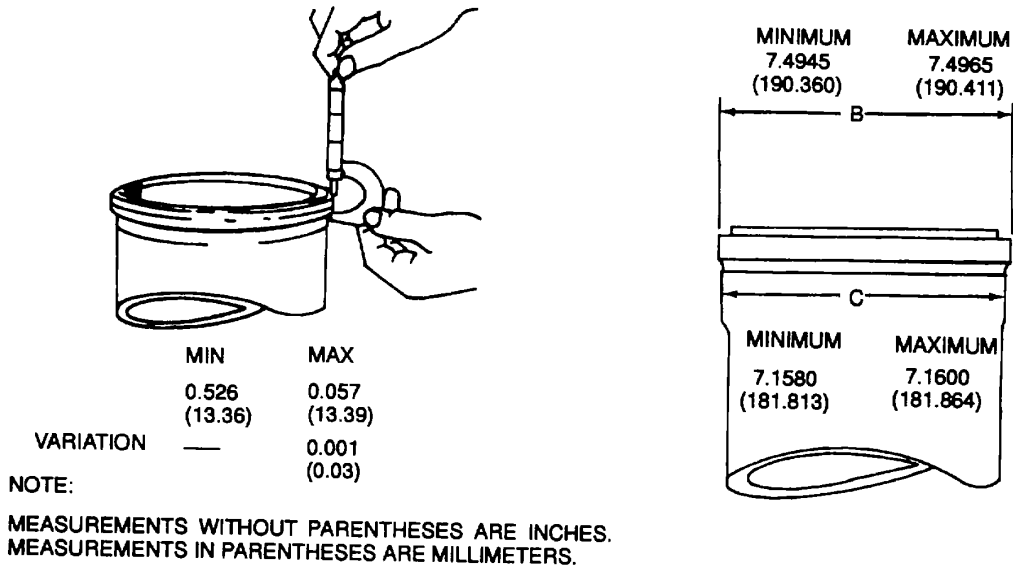

Figure 9-35. Cylinder Liner Measurements
- (1) Inspect the cylinder liner bore in accordance with paragraph 9-23.
- (2) Clean any rust or scale from the outer diameter of the liner, and check for pitting caused by rust or corrosion. Replace the liner if the underside of the flange is pitted to any extent. Replace the liner if the outer diameter in any area (other than the underside of the flange) is pitted deeper than 0.0625 inch (1.59 mm).
- (3) Using an outside micrometer, check the thickness of the outer flange (A, Figure 9-35) at 90 degree intervals. Do not include the bead on top of the liner flange when taking the measurement. Replace the liner if the flange thickness is not in accordance with the dimensions given in Figure 9-35.
Two types of cylinder liners may be encountered: On engines manufactured before July 1980, to engine number 33103621 the liners press into the top counterbore of the cylinder block (B, Figure 9-35). On later engines, the liners press into the secondary bore of the cylinderblock (C, Figure 9-35). Accept or reject the cylinder liner in accordance to either step (4) or step (5), below, as applicable.
- (4) Check the outer diameter of the cylinder liner flange (B, Figure 9-35). Replace the liner if the diameter is not in accordance with the dimensions given in Figure 9-35.
- (5) Check the diameter of the cylinder liner at C, Figure 9-35. Replace the liner if the diameter is not in accordance with the dimensions given in Figure 9-35.
- (6) Check the liner for cracks using magnetic particle inspection in accordance with MIL-L-6868; pay particular attention to the corner area under the flange. Replace the liner if cracked.
- (7) Check the cylinder block liner counterbore, secondary liner bore, and lower liner bore in accordance with paragraph 9-31.
- (8) Clean and prepare cylinder block for liner installation in accordance with paragraph 9-31.
- (3) Measure the thickness of the liner flange (A, Figure 9-35), insert ring (31, Figure 9-24), and shims (if used).
- (4) Add the thickness of the insert-ring (31) and shims (if used) to the flange thickness of the liner (27), and subtract the depth of the counterbore (insert-ring + shims + liner flange counterbore depth). The obtained is the liner protrusion, and must be 0.005 to 0.007 inch (0.13 to 0.18 mm). Refer to Table 9-5, and add or subtract shims as necessary to obtain the correct liner protrusion.
- (5) Apply a 1/16 inch bead of silicone 3801048 in the counterbore of the cylinder block (58), and install the insert-ring (31) in the counterbore of the cylinder block. If necessary, add shims as selected in step (4), above Shims, if used, shall be installed between the insert-ring (31) and the liner flange.